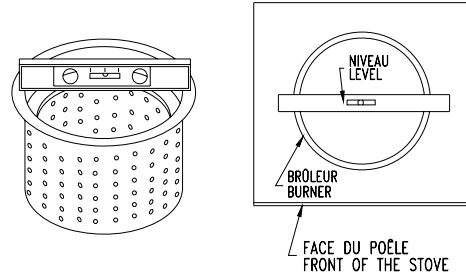

Figure 9A: LEVELLING THE BURNER
- Put the level in the middle of the burner paralleled to the door. (Figure 9A). Screw or unscrew the adjustable legs to level the burner with a 7/16" key.